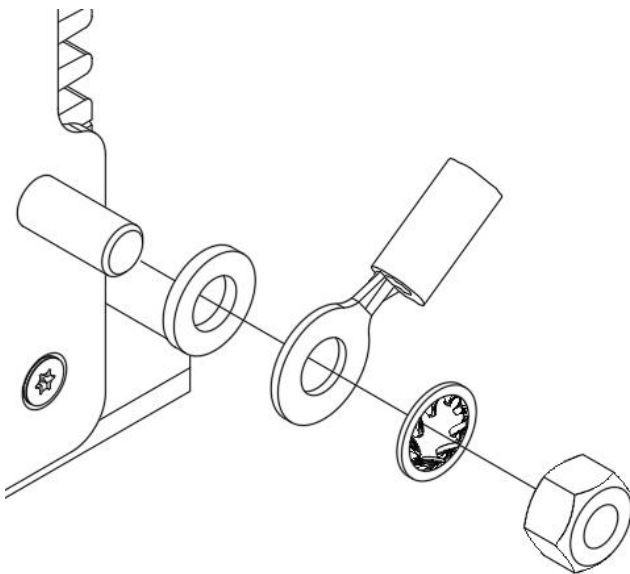

Figure 3 Earth cable mounting on Earth Stud
- Mount the earth cable as shown in Figure 3.